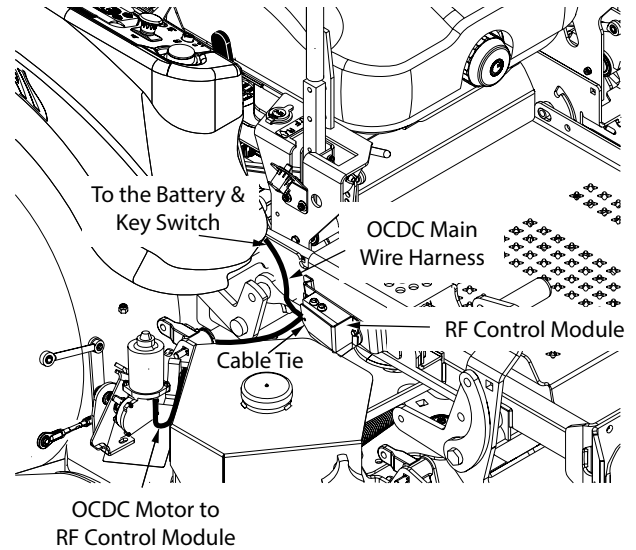

Figure 3-39. E-OCDC Wire Harness Installation
16. Install the E-OCDC discharge chute to the cutter deck. Secure using two (2) 5/16-18 x 1-3/4" bolts and two (2) 2 5/16-18 elastic stop nuts. See Figure 3-39.
18. Secure the upper control link to the E-OCDC discharge chute using one (1) 5/16-18 x 1-1/4" bolt and one (1) 5/16-18 elastic stop nut. A spacer will be required to install the 61 and 72 inch discharge chutes. See Figure 3-39.